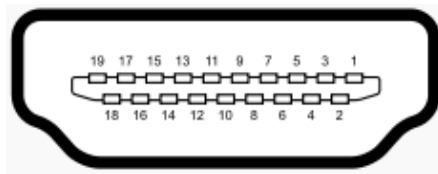

Figure 3-29: HDMI Connector
- CN Pinouts: See Table 3-25 and Figure 3-29